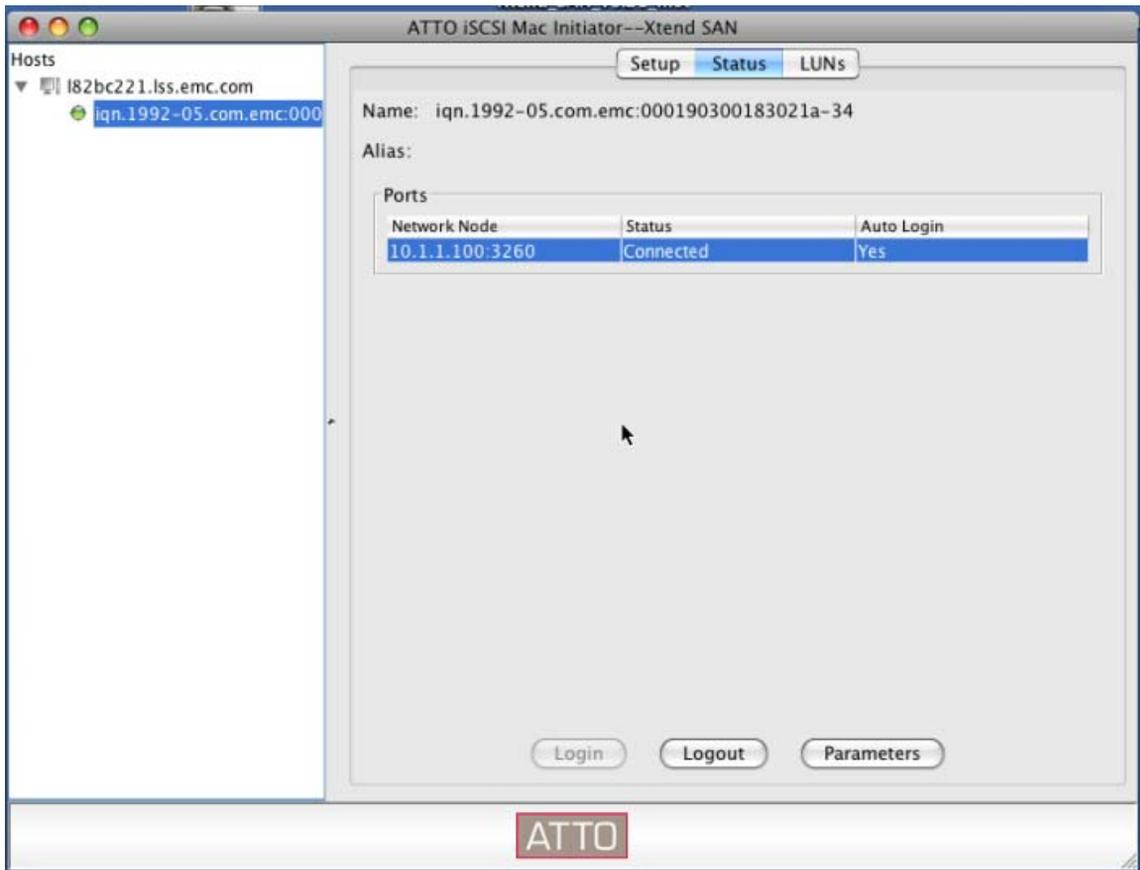

Figure 21 Green icon beside iqn in left panel shows connection
12. When the operation is complete, the red icon beside the iqn name in the left panel turns green, as shown in Figure 21.